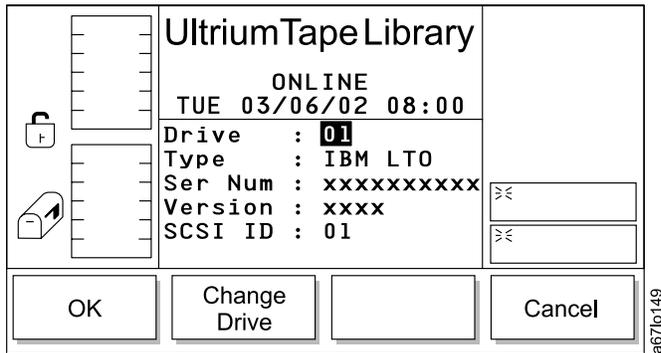

Figure 8-1. Drives Dialog
- To view the level of firmware currently loaded on a drive, select **Main Menu (initial screen)** —> **Status** —> **Drives**. The Drives Dialog displays (see Figure 8-1).